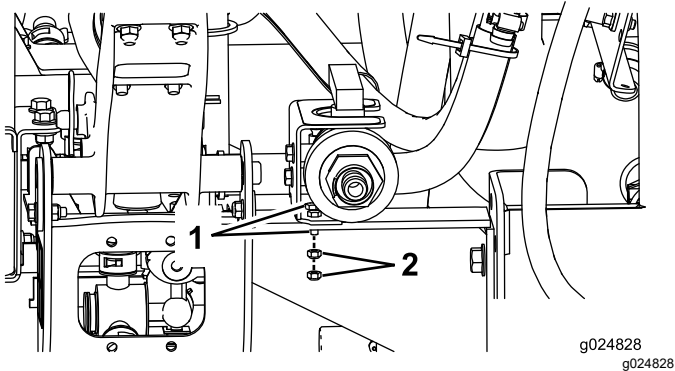

Figure 34
6. Install the ball valve and valve mount bracket to the machine with 2 hex-head bolts (6 x 16 mm) and 2 flange nuts (6 mm) (Figure 34).